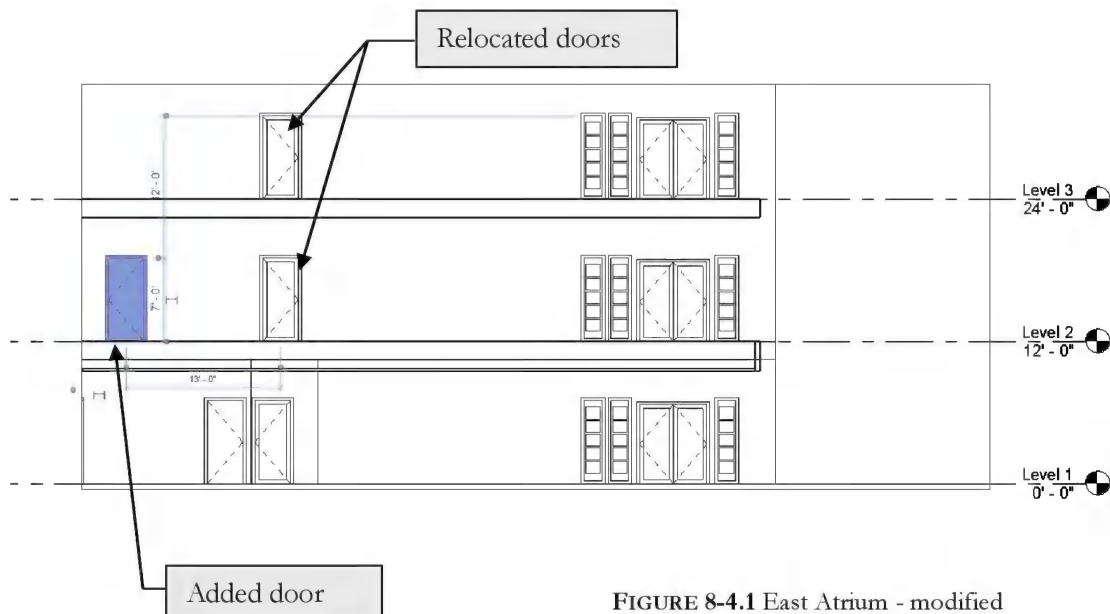

FIGURE 8-4.1 East Atrium - modified
4. Use the **Move** tool to move the door 6'-0" to the right (South). (Figure 8-4.1)
5. In the East Atrium elevation view, use the **Door** tool to place a Sgl Flush: 36" x 84" door on Level 2 to the far left (North). (See Figure 8-4.1.)